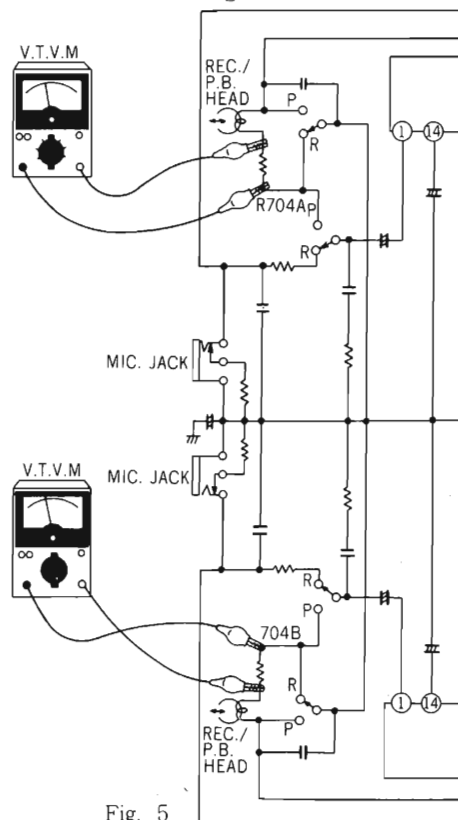

Fig. 5
(3) Adjustment of bias current
- ① Set up the REC. mode.
- ② Observe the voltage drop at the both ends of resistor R704A (right channel), R704B (left channel) with a VTVM connected to the resistor R704A, R704B (See Fig. 5).